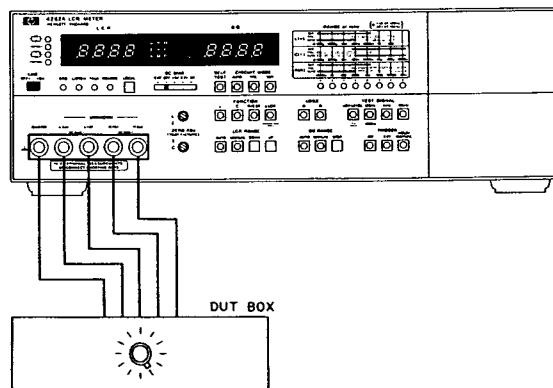

Figure 4-7. Offset Adjustment Test Setup.
5. Disconnect shorting bars from 4262A UNKNOWN terminals and connect Test Leads (HP P/N 16361-61605) between 4262A UNKNOWN terminals and 16362A DUT Box as shown in Figure 4-7.
(2) L ZERO ADJ test
15. Disconnect shorting bars from 4262A UNKNOWN terminals and connect Test Leads (HP P/N 16361-61605) between 4262A UNKNOWN terminals and 16362A DUT Box as shown in Figure 4-7.